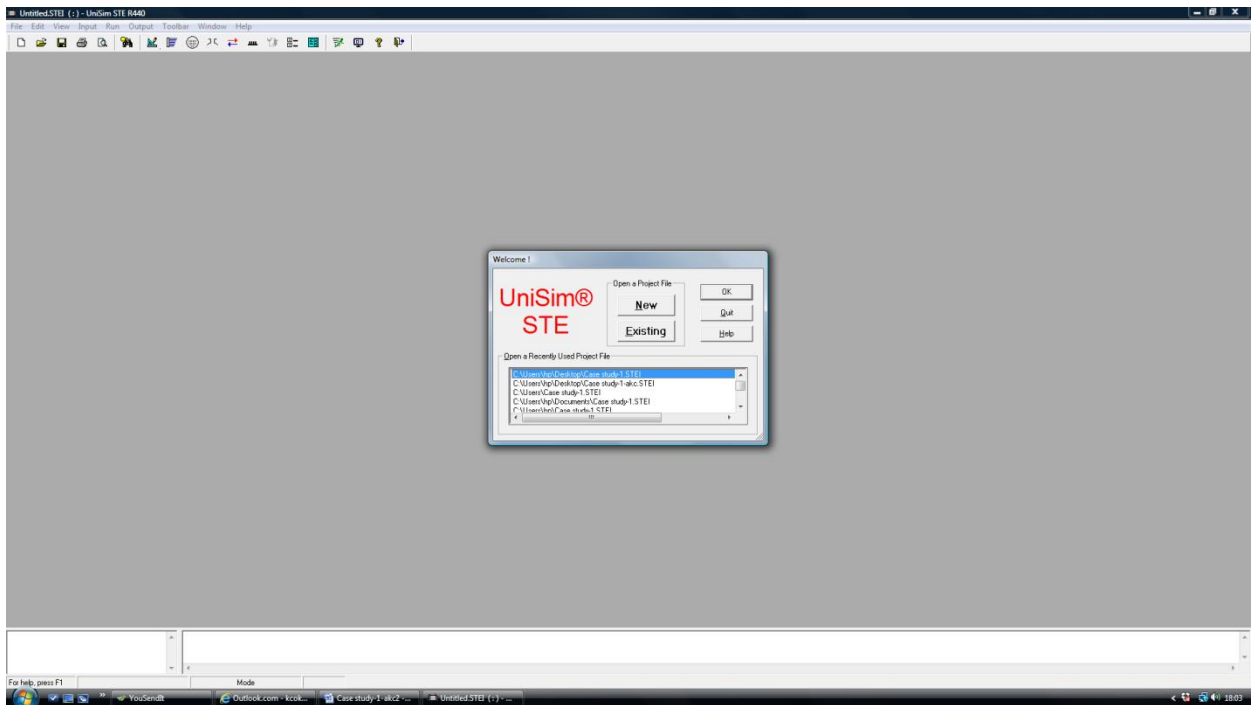

Figure 2. UniSim ® STE windows (Source: UniSim Shell –Tube Exchanger Modeler, Courtesy of Honeywell Process Solutions, All rights reserved).
Click item 4 of UniSim ® STE R440 icon loads the main UniSim ® STE window and over this is the **Welcome** view as shown in Figure 2. From this view, one can select to create a **New** file or open an **Existing** file. To start a new case simulation, click the **New** button as shown in Figure 2, and Figure 3 appears for the start of inputting the data.